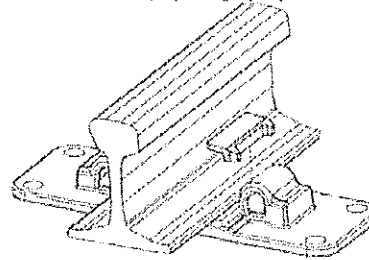

Fig. 58-Insert Insulator
- Place the insulator – if applicable – in its intended position, Fig. 58.